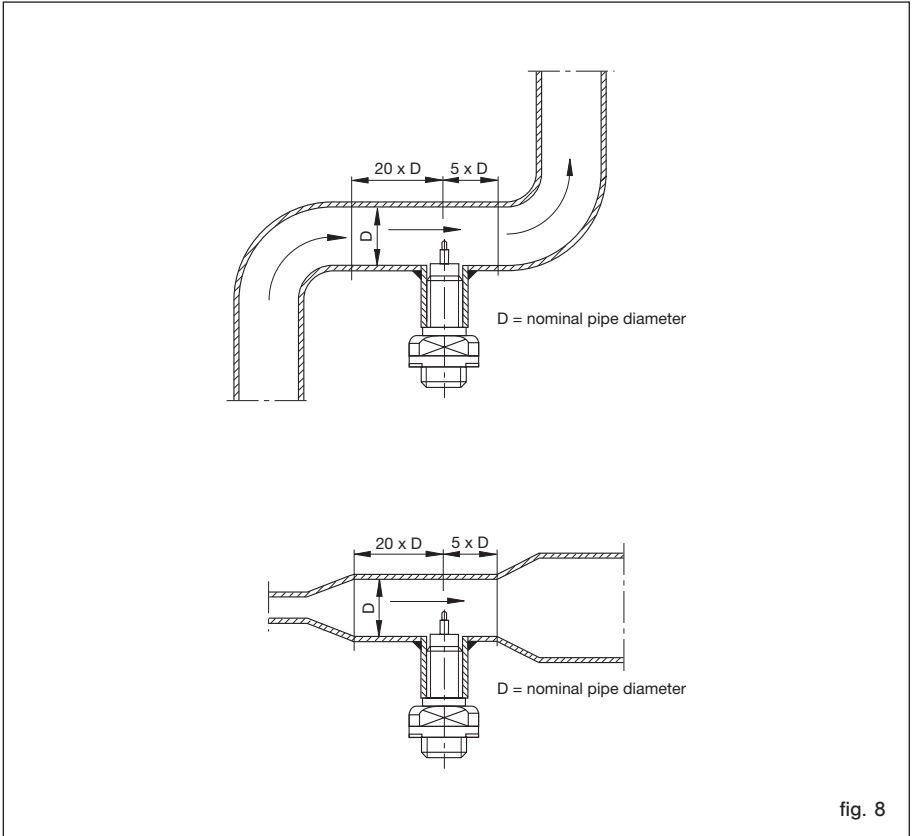

fig. 8
- The monitoring head should be installed only in a straight section of piping. There should be a distance of at least 20 pipe diameters before the monitoring head, and 5 pipe diameters after the monitoring head before or after bends and changes in pipe diameter, to avoid any effects of turbulence (fig. 8).